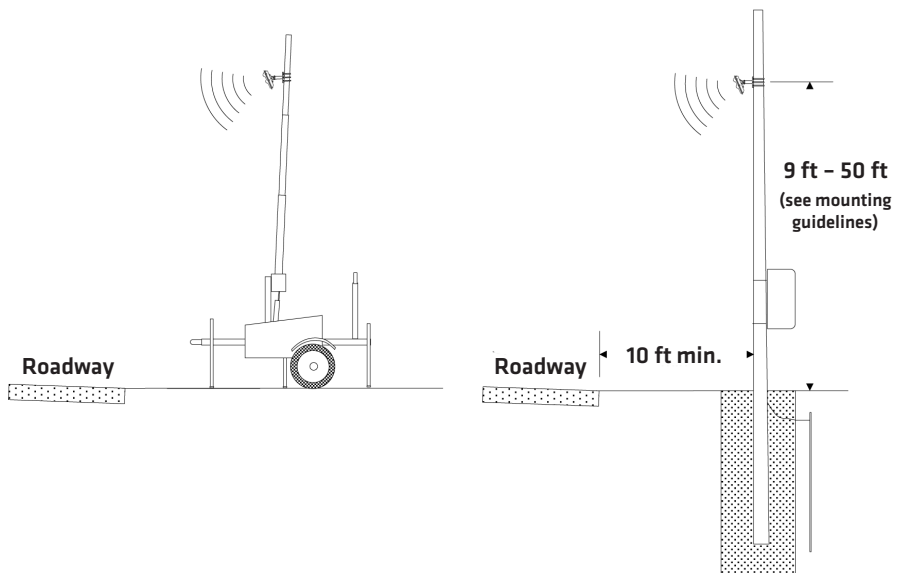

Figure I.1 - Portable (left) and Permanent (right) Sensor Stations
- **Freeway Locations** - The SmartSensor V is often used at permanent ATR stations. The number of stations along a single roadway and the distance between stations should be selected to achieve adequate levels of statistical confidence. Permanent ATR stations, which are selected to cover interstate, principal arterial and other national and state highways, are used to establish seasonal adjustment factors for count data from temporary collection sites (see Figure I.1).